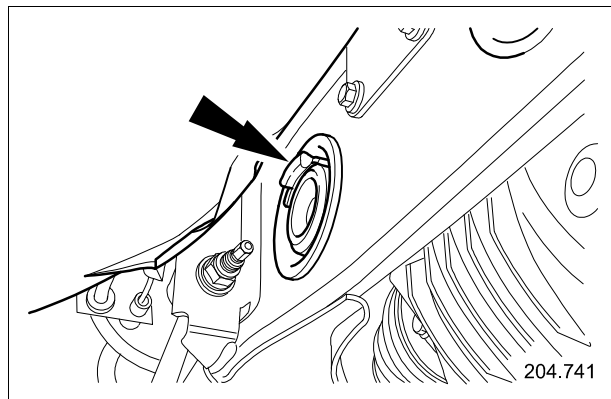

Fig. 4
- 7 Using a suitable lever positioned against the front face of the spare wheel well protection, lever insert fully into position (see Fig. 4).